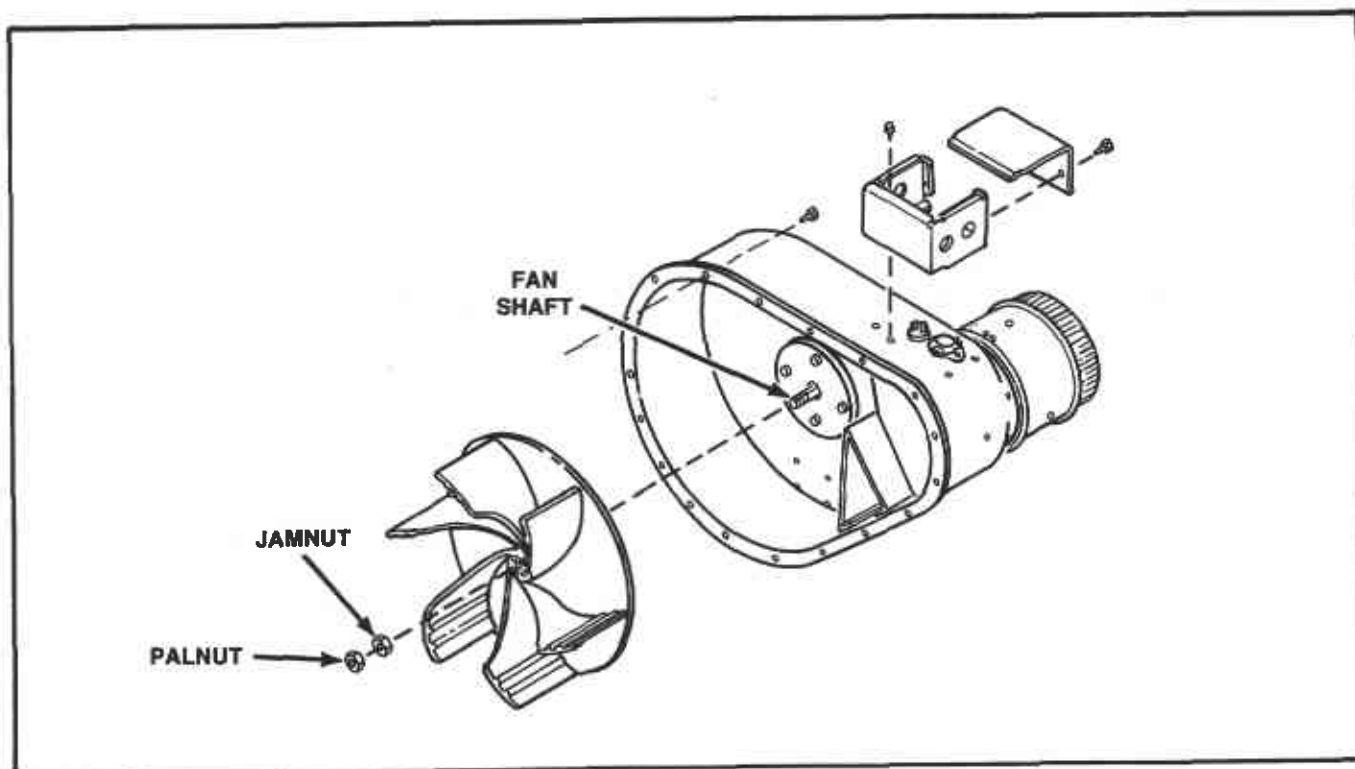

Figure 31
h. With fan housing assembly off cabinet, hold fan while loosening palnut and jamnut, *Figure 31*.
**34. FAN BEARING, SHAFT AND HOUSING ASSEMBLY (Figure 31)**